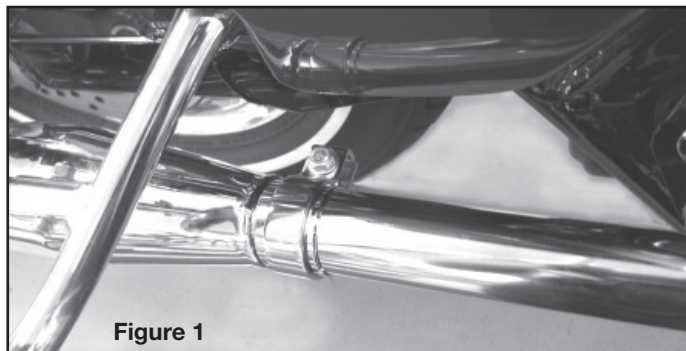

Figure 1
1. Install one muffler clamp (supplied) over the front (notched end) of each muffler (Figure 1).